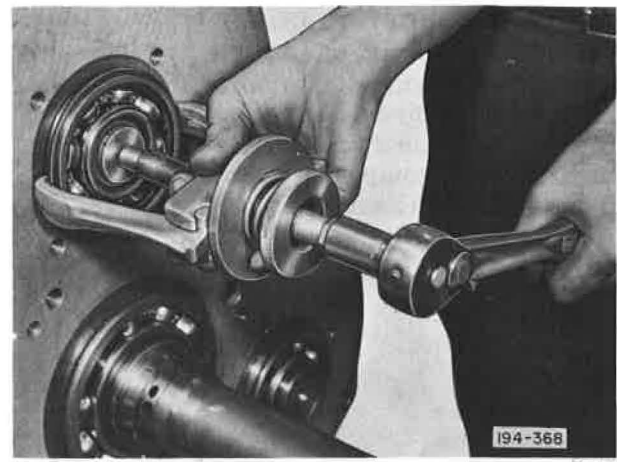
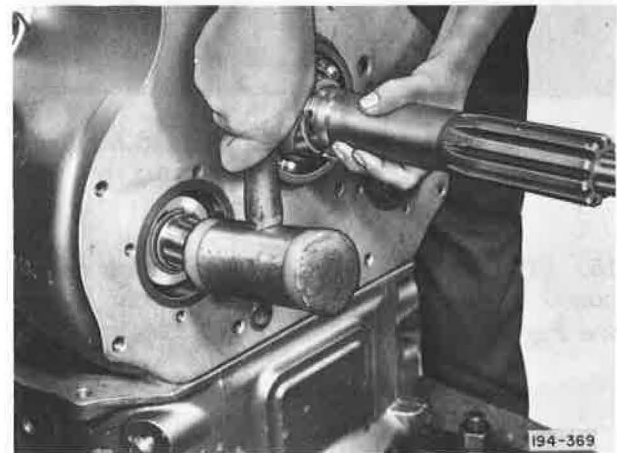

Figure 5-145. Removing Compound Countershaft Front Bearings
Figure 5-146. Driving Compound Countershafts Rearward
15. (TRDXL1070) Turn compound case over, install puller on compound countershaft front bearings and remove. See Figure 5-145. With a soft headed mallet, tap on front of compound countershafts, driving shafts rearward and partially through rear bearing opening. See Figure 5-146.